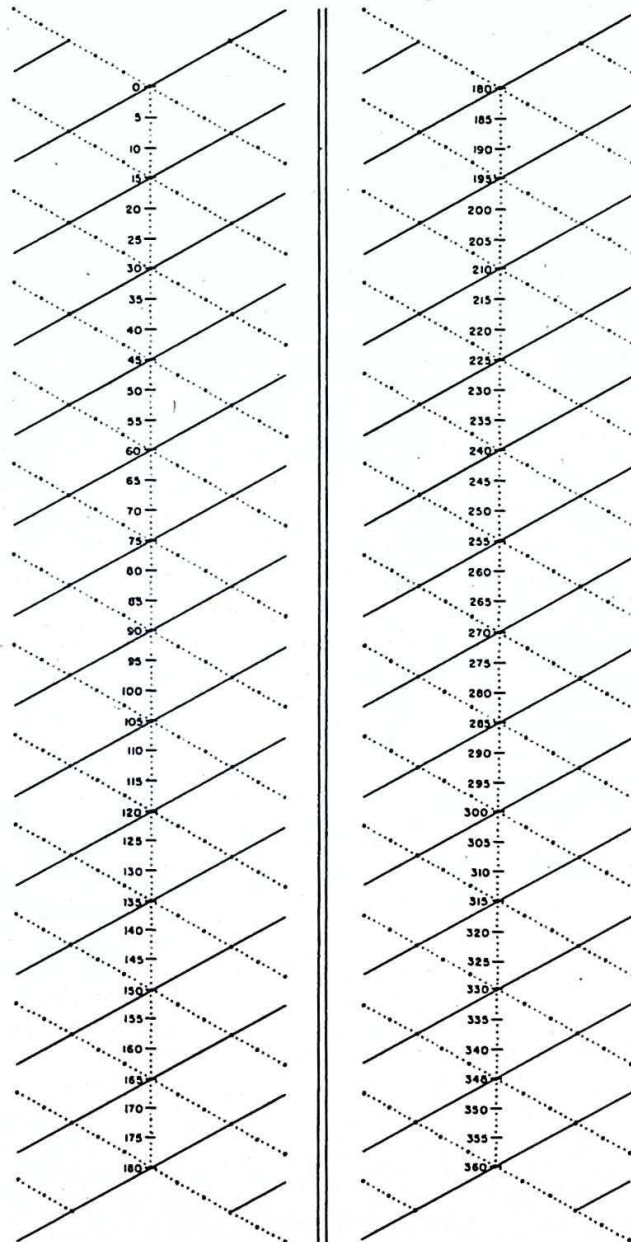

Figure 2-6. Radio Compass Deviation Calibration Curve
(1) Plot the indicated bearings on figure 2-4 from column 3 against the corresponding plane-to-radio-station bearing of column 2. Use the chart of figure 2-6 and see figures 2-5 and 2-7 for an example.